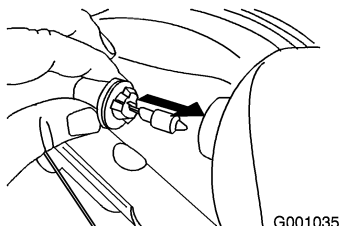

Figure 53
4. Insert a new bulb into the back of the headlight (Figure 53).